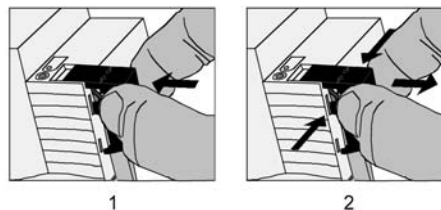

Figure 8: Installing / removing the protective cap.
- To install the cap: slide the cap backwards until you feel it engage (Figure 8).
- To remove the cap: Push the cap sideways slightly and pull off toward the front (Figure 8).